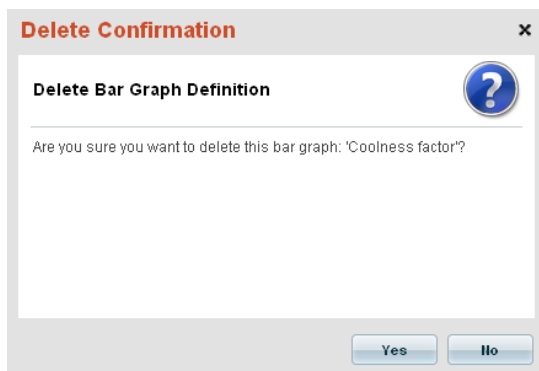

FIG. 428 Delete Confirmation dialog - Delete Bar Graph Definition
4. The program will prompt you to verify this action (FIG. 428):